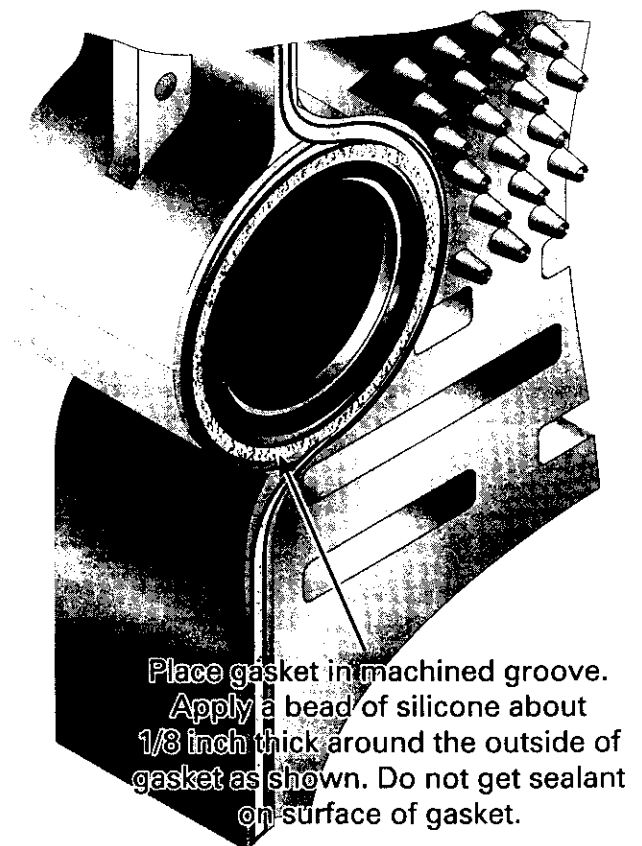

Figure 9: Apply Silicone Sealant
9. Apply a bead of silicone sealant around each flow port as shown in Figure 9. Do not get sealant on the flow port gaskets.